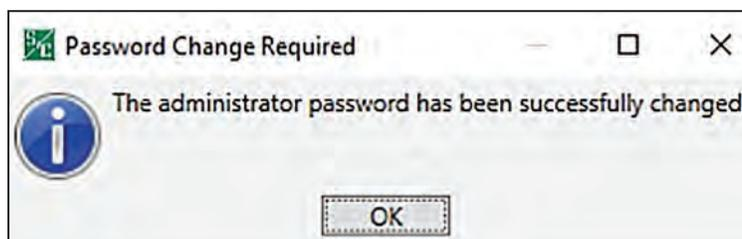

Figure 35. The Change Password Required dialog box after the password is successfully changed.
STEP 3. When the password is changed successfully, the Successfully Changed dialog box opens. See Figure 35. Click on the **OK** button to finish the change-password process. If the password was not changed successfully, go to Step 4 on page 94.